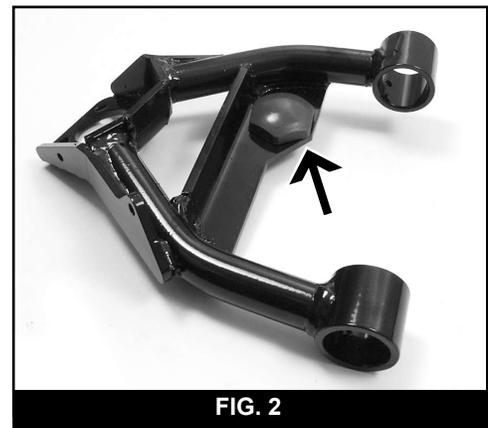

FIG. 2
13. Install the new bump stop to the underside of the control arm cross brace and fasten with a 3/8" nut and lock washer (Fig. 2).